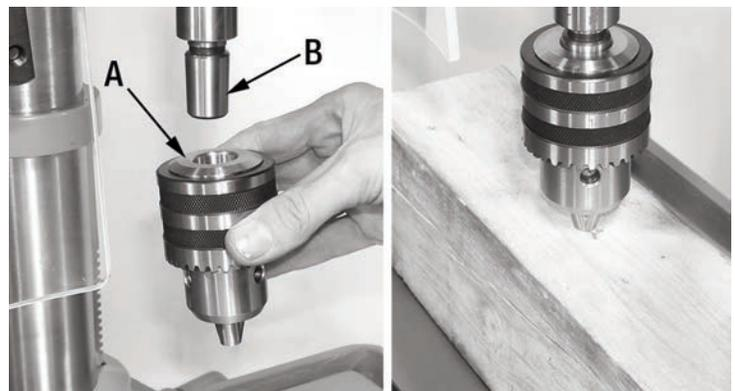

FIGURE 8
1. Slide the 5/8" chuck (A) Fig.8 onto the tapered end of the spindle (B).